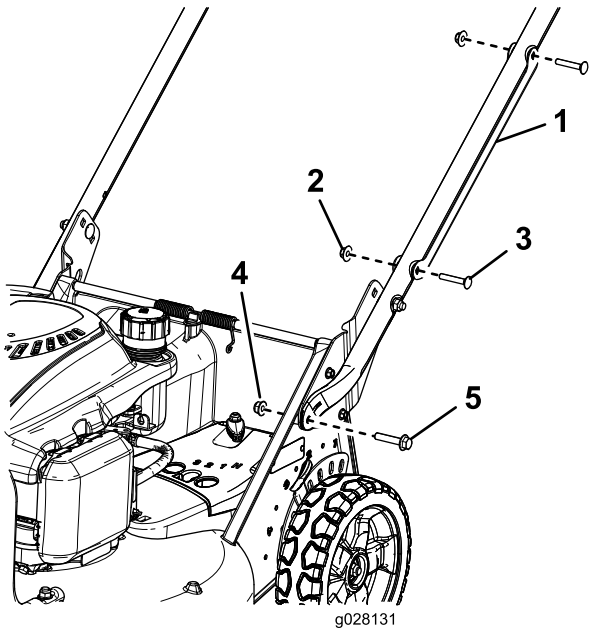

Figure 3
1. Remove the cable guard from the handle (Figure 3) by removing the 2 carriage bolts and 2 locknuts that hold the cable guard to the handle.
2. Install the handle ends onto the mower housing with 2 hex-head-flange bolts (5/16 x 1-1/2 inches) and 2 flange nuts (5/16 inch) as shown in Figure 3.
- Position the cable guard onto the handle with the cable(s) inside the guard, and secure the guard to the handle with the 2 carriage bolts and the 2 locknuts that you previously removed (Figure 3).